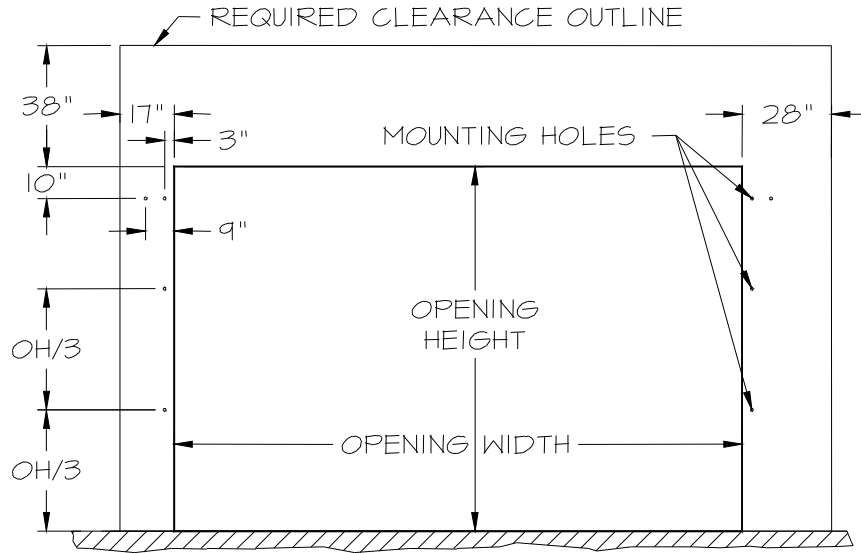

FIG. 4A
- b. Ensure there is enough space to access mounting components (Figures 4a and 4b).